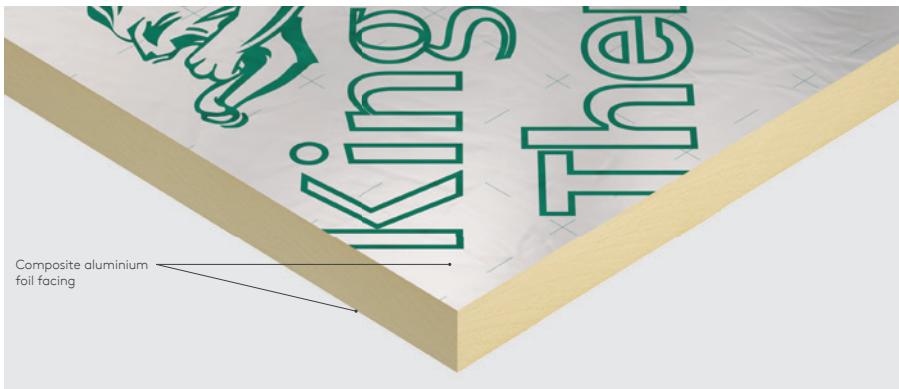

Figure 2: Rigid polyisocyanurate (PIR) insulation
- High performance insulation board with aluminium laminate facings on both sides as shown above in Figure 2.